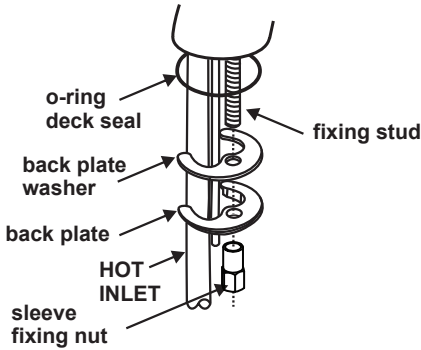

Figure 3 Fixation of basin
- Insert the fitting into the tap hole, ensuring the 'O' ring deck seal is above the platform. Attach the back plate washer, back plate and sleeve fixing nut under the platform (Figure. 3).